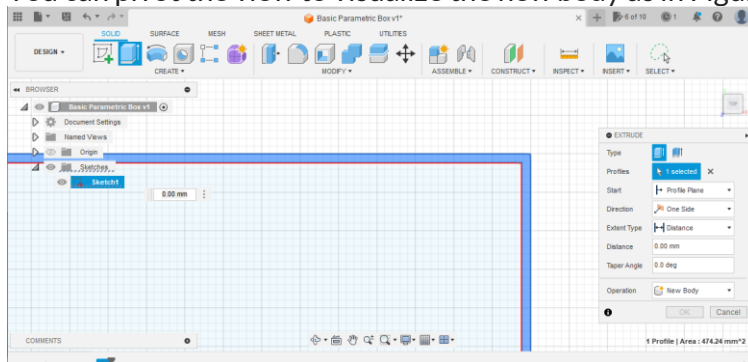

Figure 10: Selecting the wall profile to extrude
2. Select the space between the outer wall and inner wall of the rectangle to choose the wall as in Figure 10.